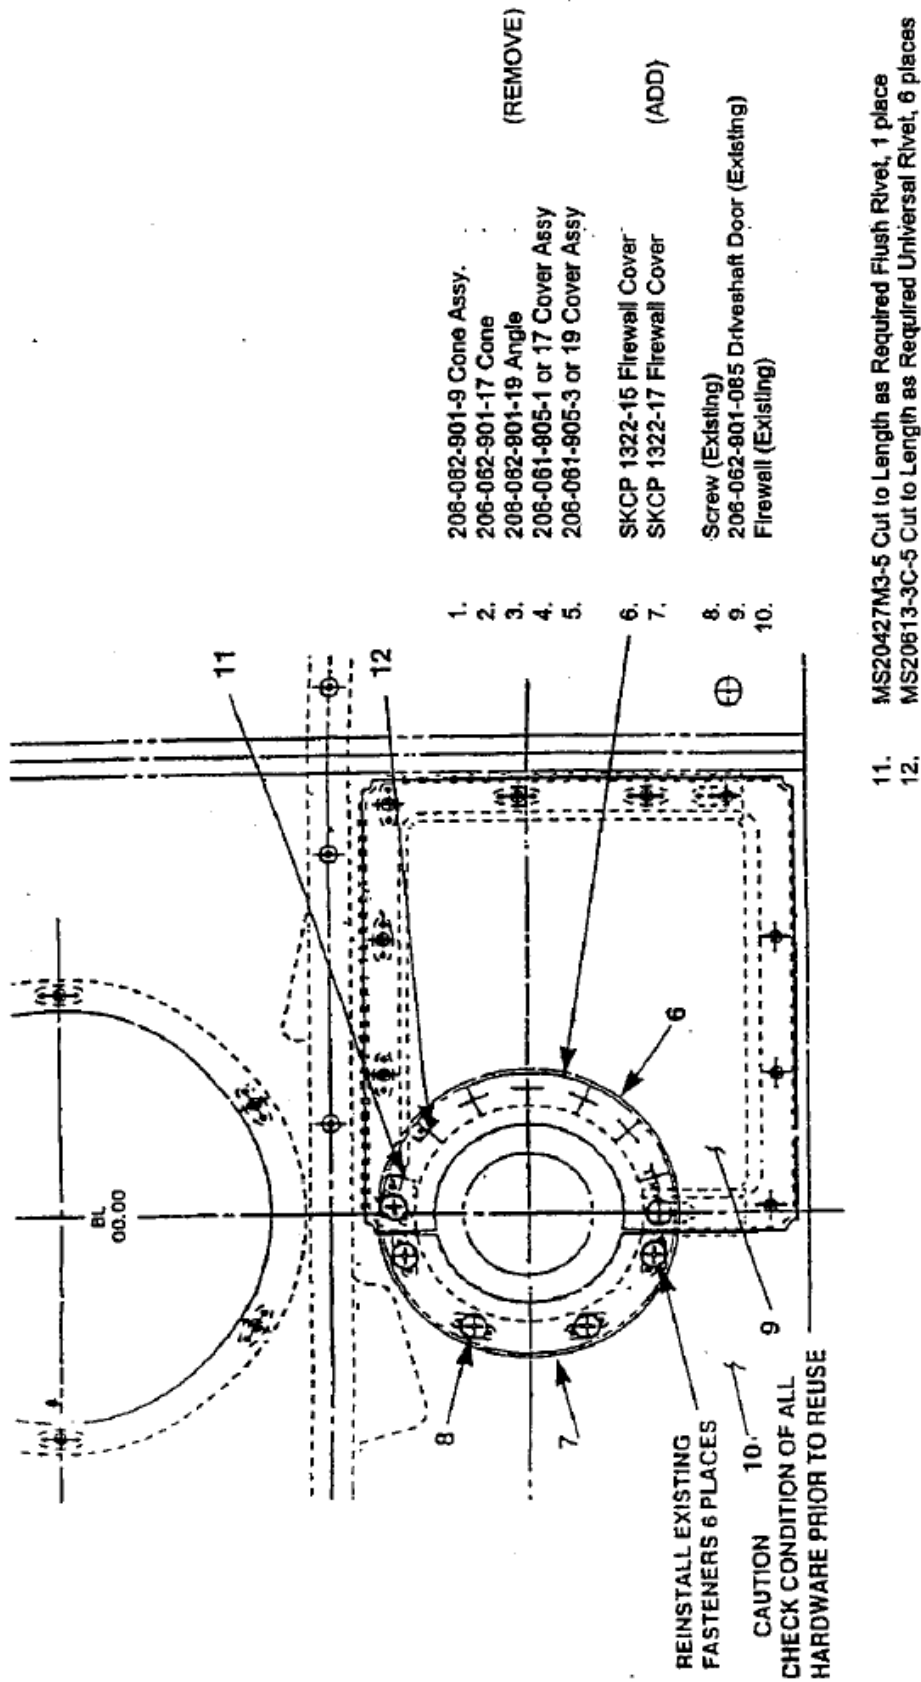

FIGURE 2: Looking FWD
- a. Gain access to driveshaft door (Figure 2, Item 9)
- d. Remove cone (Figure 2, Item 2) and angle (Figure 2, Item 3) from driveshaft door.
- e. Align firewall cover (Figure 2, Item 6) and secure with two screws (Figure 2, Item 8).
Ensure firewall cover (Figure 2, Item 6) is installed on the aft side of the driveshaft door (Figure 2, Item 9) with the lip facing forward.
- f. Locate and mark seven rivet holes (Figure 2, Items 11 & 12) on driveshaft door (Figure 2, Item 9)
- g. Remove firewall cover (Figure 2, Item 6) from driveshaft door (Figure 2, Item 9), and drill firewall cover using a 3/32" or .093" drill.
- h. Dimple upper rivet hole (for rivet Figure 2, Item 11) to clear dimple on door. Rivet in this location must be flush to allow driveshaft door (Figure 2, Item 9) to fit flush on firewall (Figure 2, Item 10).
- i. Install firewall cover (Figure 2, Item 6) on driveshaft door (Figure 2, Item 9) and secure with two screws (Figure 2, Item 8).
- j. Cut six MS20613-3C (3/32 Univ. Head CRES) rivets (Figure 2, Item 12) to length, install and rivet firewall cover (Figure 2, Item 6) to driveshaft door (Figure 2, Item 9). Do not install these rivets in top dimpled rivet hole.
- k. Cut one MS20427M3 (3/32 flush Monel) rivet (Figure 2, Item 11) to length, install in dimpled hole and rivet firewall cover (Figure 2, Item 6) to driveshaft door (Figure 2, Item 9).
- a. Install firewall cover (Figure 2, Item 7) using 4 screws (Figure 2, Item 8).
- b. Install driveshaft door (Figure 2, Item 5) and gasket, (Figure 2, Item 4) using 11 screws (Figure 2, Item 8) and remaining 2 screws (Figure 2, Item 8).
- c. **Turn KAFlex® Driveshaft by hand to ensure proper operation and clearance. Check clearance between the driveshaft and firewall covers (Figure 2, Items 6 & 7) at four positions, 3 o'clock, 6 o'clock, 9 o'clock and 12 o'clock. Minimum clearance must be 0.450".** If the clearance is less than 0.450", it can be adjusted by loosening 4 screws (Figure 2, Item 8) and sliding firewall cover (Item 7) or by loosening 11 screws (Item 14) and sliding driveshaft door (Item 5) within the clearance of the screw hole and then re-tightening the screws.
- c. From right side of the helicopter, remove 15 screws (Figure 4, Item 14) securing firewall cover (Figure 2, Item 7), and driveshaft door (Figure 2, Item 9) to firewall. Remove firewall cover (Figure 4, Item 7) driveshaft door (Figure 4, Item 5), and gasket (Figure 4, Item 4) from aircraft.
- c. **Turn KAflex Driveshaft by hand to ensure proper operation and clearance. Check clearance between the driveshaft and firewall covers (Figure 2, Items 6 & 7) at four positions, 3 o'clock, 6 o'clock, 9 o'clock and 12 o'clock. Minimum clearance must be 0.450".** If the clearance is less than 0.450", it can be adjusted by loosening 4 screws (Figure 2, Item 8) and sliding firewall cover (Figure 4, Item 7) or by loosening 11 screws (Figure 4, Item 14) and sliding driveshaft door (Figure 4, Item 5) within the clearance of the screw hole and then re-tightening the screws.